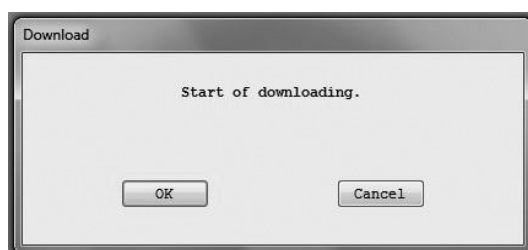

Fig. 3-90
- (6) The message box (Fig. 3-90) will be displayed. Click "OK" button to download the parameters to the transmitter.